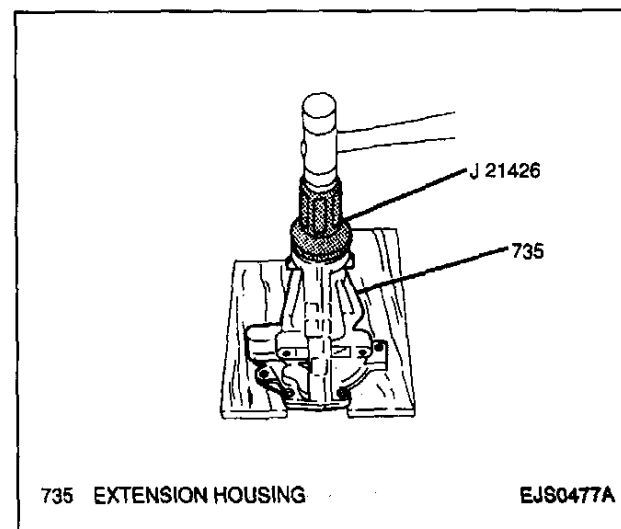

Figure 56—Installing Extension Housing Seal (3L30, 3-Speed)
2. Extension housing seal into extension housing using a J 21426 (Figure 56).